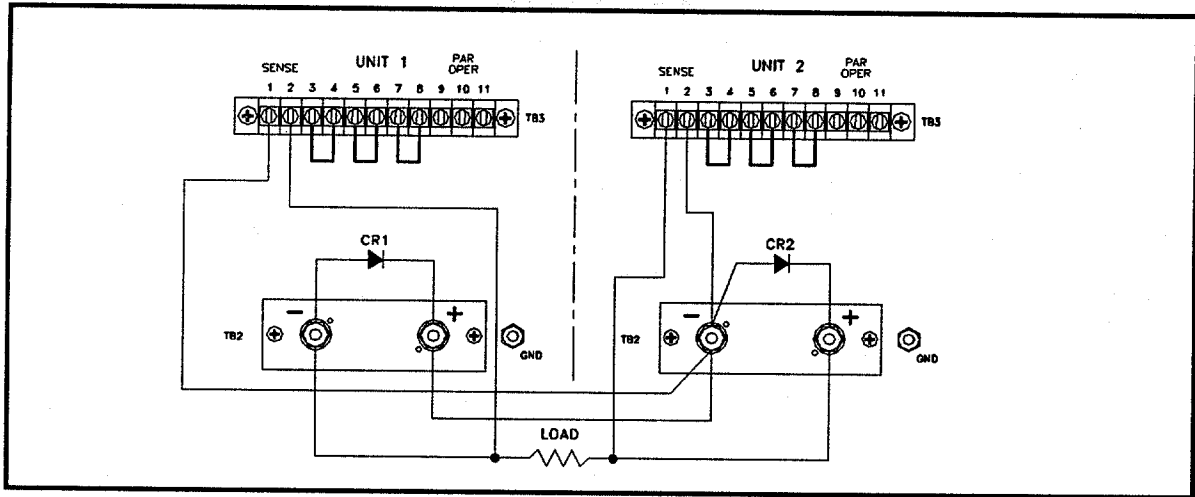

Figure 3-10 Direct Series Connections (Remote Sensing)
3.5.1.....Direct Series Connections (Figure 3-10)
3. Interconnect units as shown in Figure 3-10.